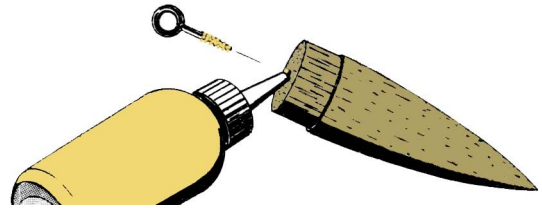

Figure 3
- **Step 5** Use the threads of the screw eye to cut matching threads into the base of the nose cone, then carefully reverse the screw eye out of the hole. As shown in Fig. 3, force glue deep into the hole, and coat the screw eye threads with glue, then reinsert the screw eye into the hole. Do not wipe away any glue. Set this aside to dry in a vertical attitude, pointing downward.